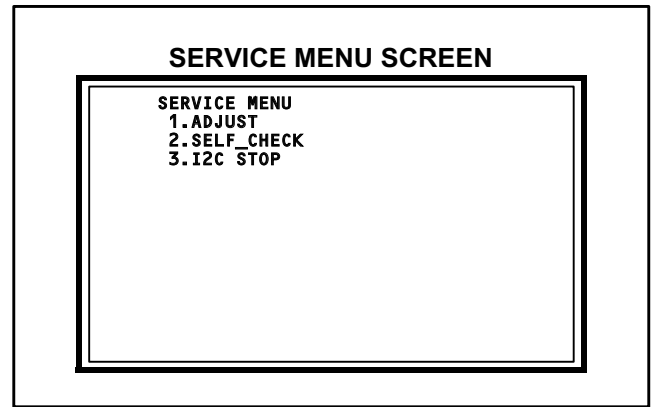

Fig.1
- (1) Set to 0 minutes using the **[SLEEP TIMER]** key.
- (2) Press the **[VIDEO STATUS]** key and **[DISPLAY]** key simultaneously, then enter the SERVICE MODE (Fig.1)